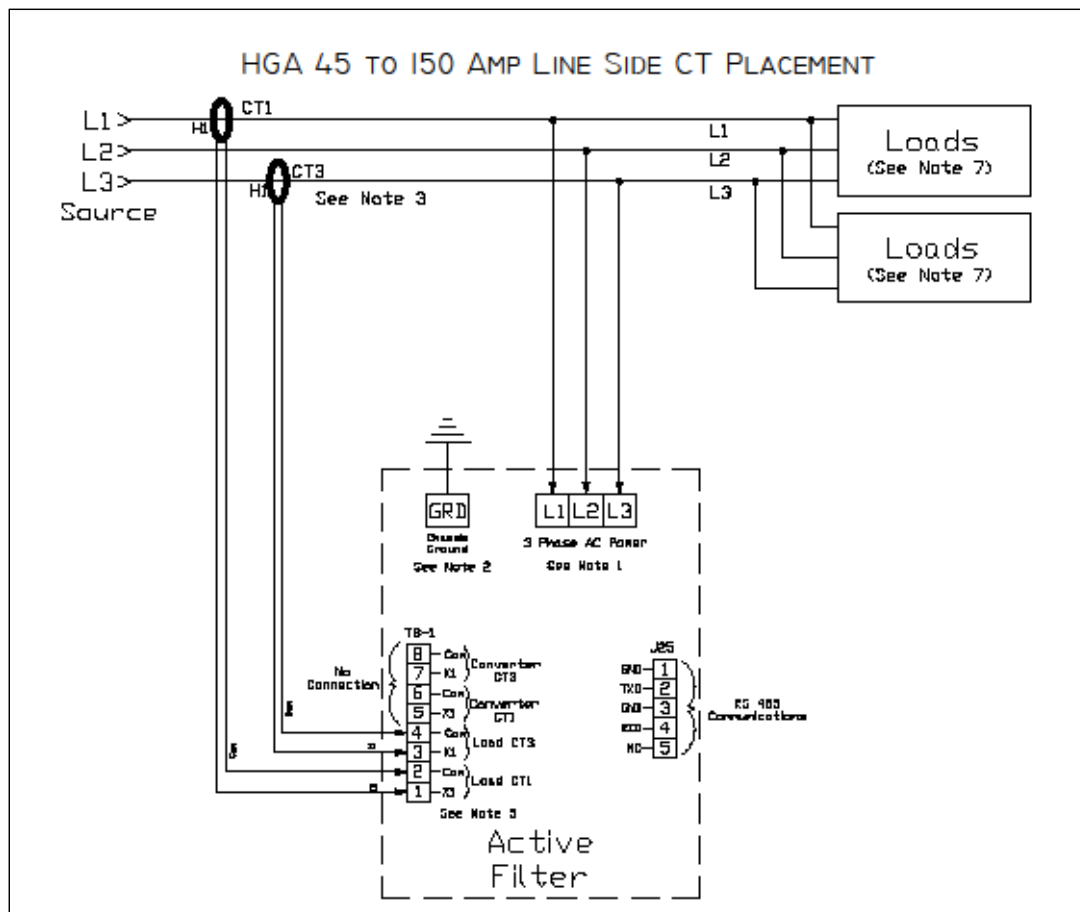
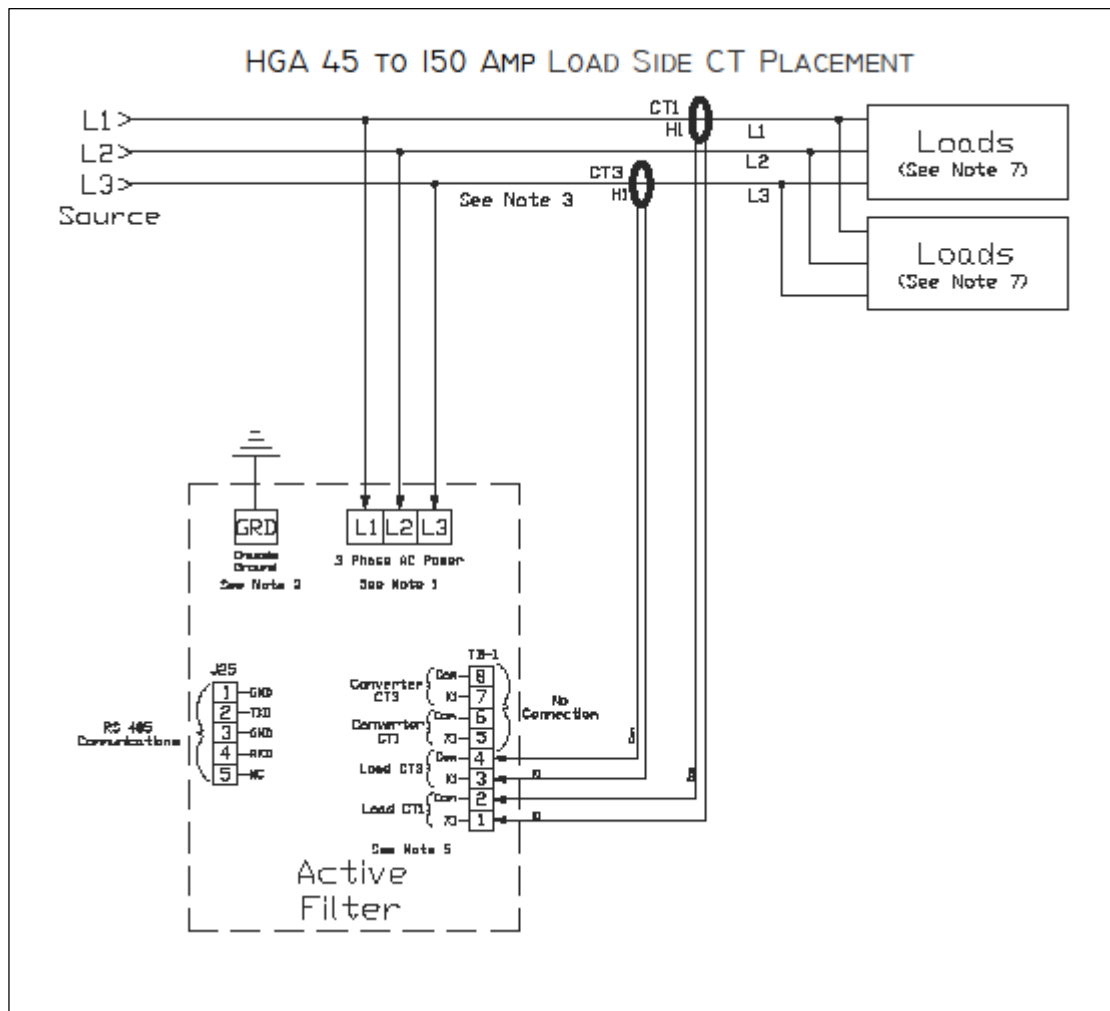

Figure 4.6: HGA 45A to 150A (480V) Line Side Connection Drawing
Figure 4.7: HGA 45A to 150A (480V) Load Side Connection Drawing
It is necessary for the HGA to monitor the current in Phase “A” (L1) and Phase “C” (L3). Stand-alone HGA filters are designed for Line Side current transformer (CT) placement as shown in **Figure 4.6**. It is important that both CTs are on the same side of the HGA. The CTs should be centered around the conductor. Optional Load Side CT placement is available for single units as shown in **Figure 4.7**.